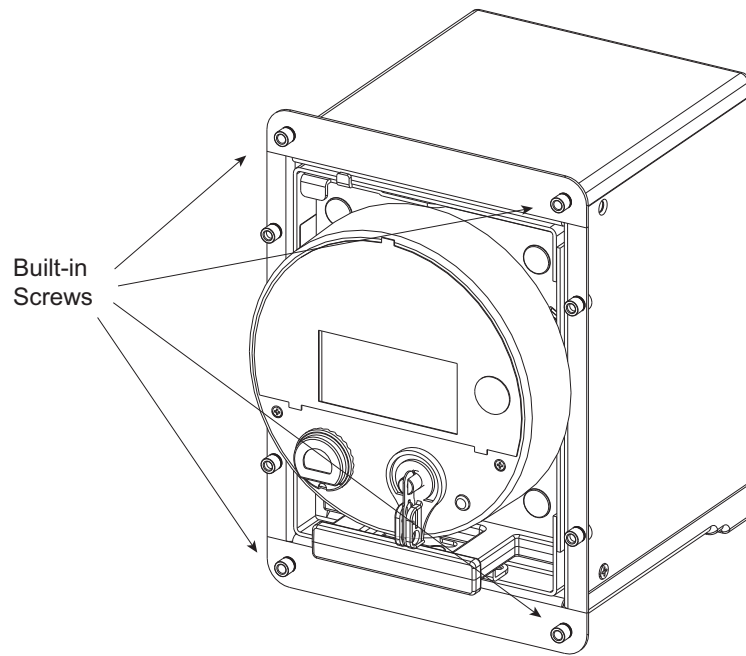

Figure 11.7: Switchboard Case Front Showing 4 Screw Holes
3. Position the Switchboard case front against the four screw holes and secure it by turning the four built-in screws in each of the corners. See Figure 11.7.
1. Attach the switchboard meter to the retrofit panel, using the built-in switchboard screws (see Figure 11.7).